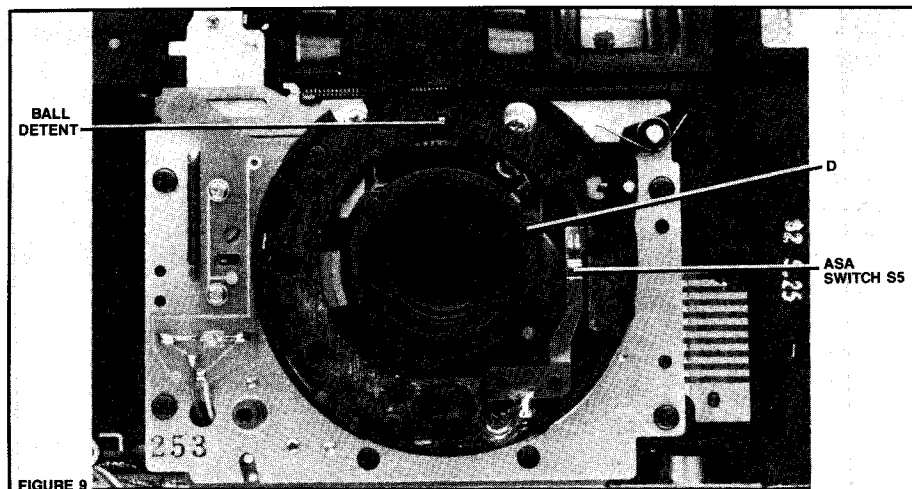

FIGURE 9
5. Check infinity by covering the AF windows as you release the shutter; use the test lead to hold open the blades. Check for sharp infinity focus with a collimator or a ground glass. Adjust by loosening the three screws, Fig. 9, and turning the front-lens cell.